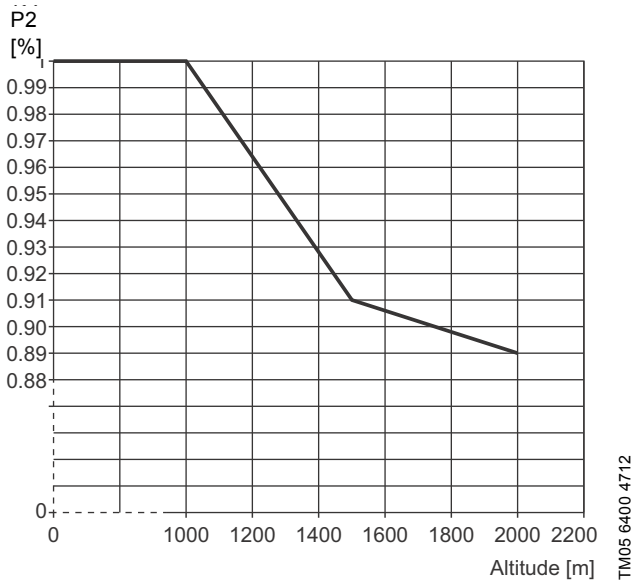

Fig. 14 Derating of motor output power (P2) in relation to altitude above sea level
- Motors installed more than 1000 metres above sea level must not be fully loaded due to the low density and consequent low cooling effect of the air. See fig. 14.